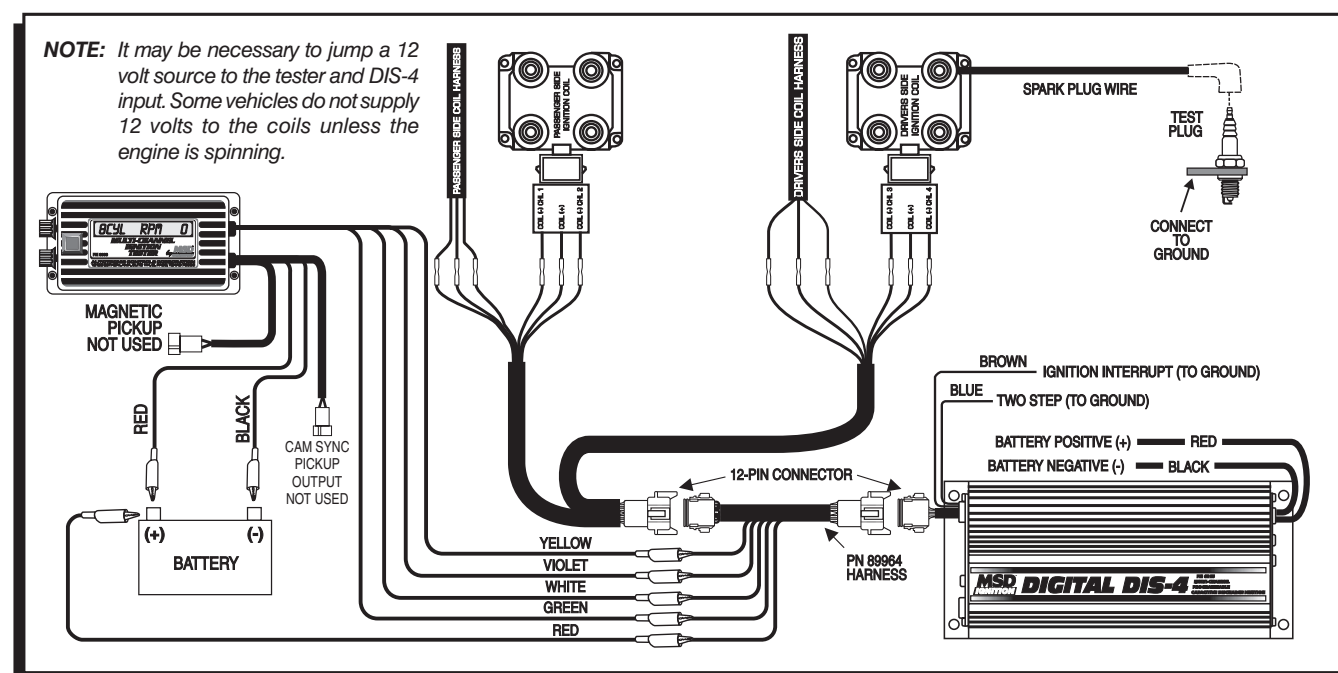

Figure 9 Testing an MSD DIS-4 Ignition Control using the PN 89964 Test Harness.
**Note:** If you have an MSD DIS Ignition Control, two test harnesses are offered to make testing each channel of the ignition easier. The DIS-4 Test Harness is PN 89964, the DIS-2 is PN 89962. These Harnesses will allow you to test the ignition and coils without having to splice into any wires. Figure 9 shows the harness.